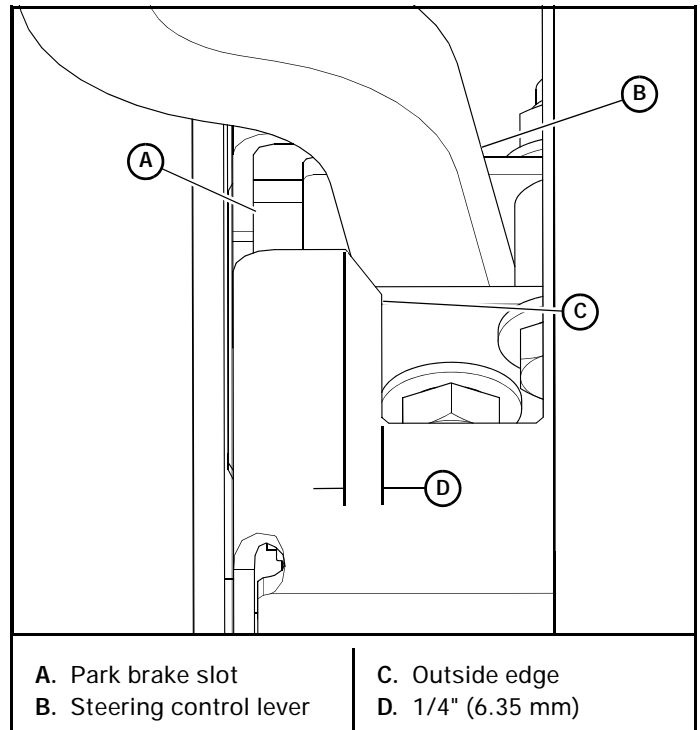

Figure 4-12
7. Move the steering control lever to where it is just inside (1/4" [6.35 mm]) the park brake slot. Figure 4-12
- c. Place the control lever in the park brake slot. The tire should not rotate when the control lever is in the park brake position. Figure 4-12